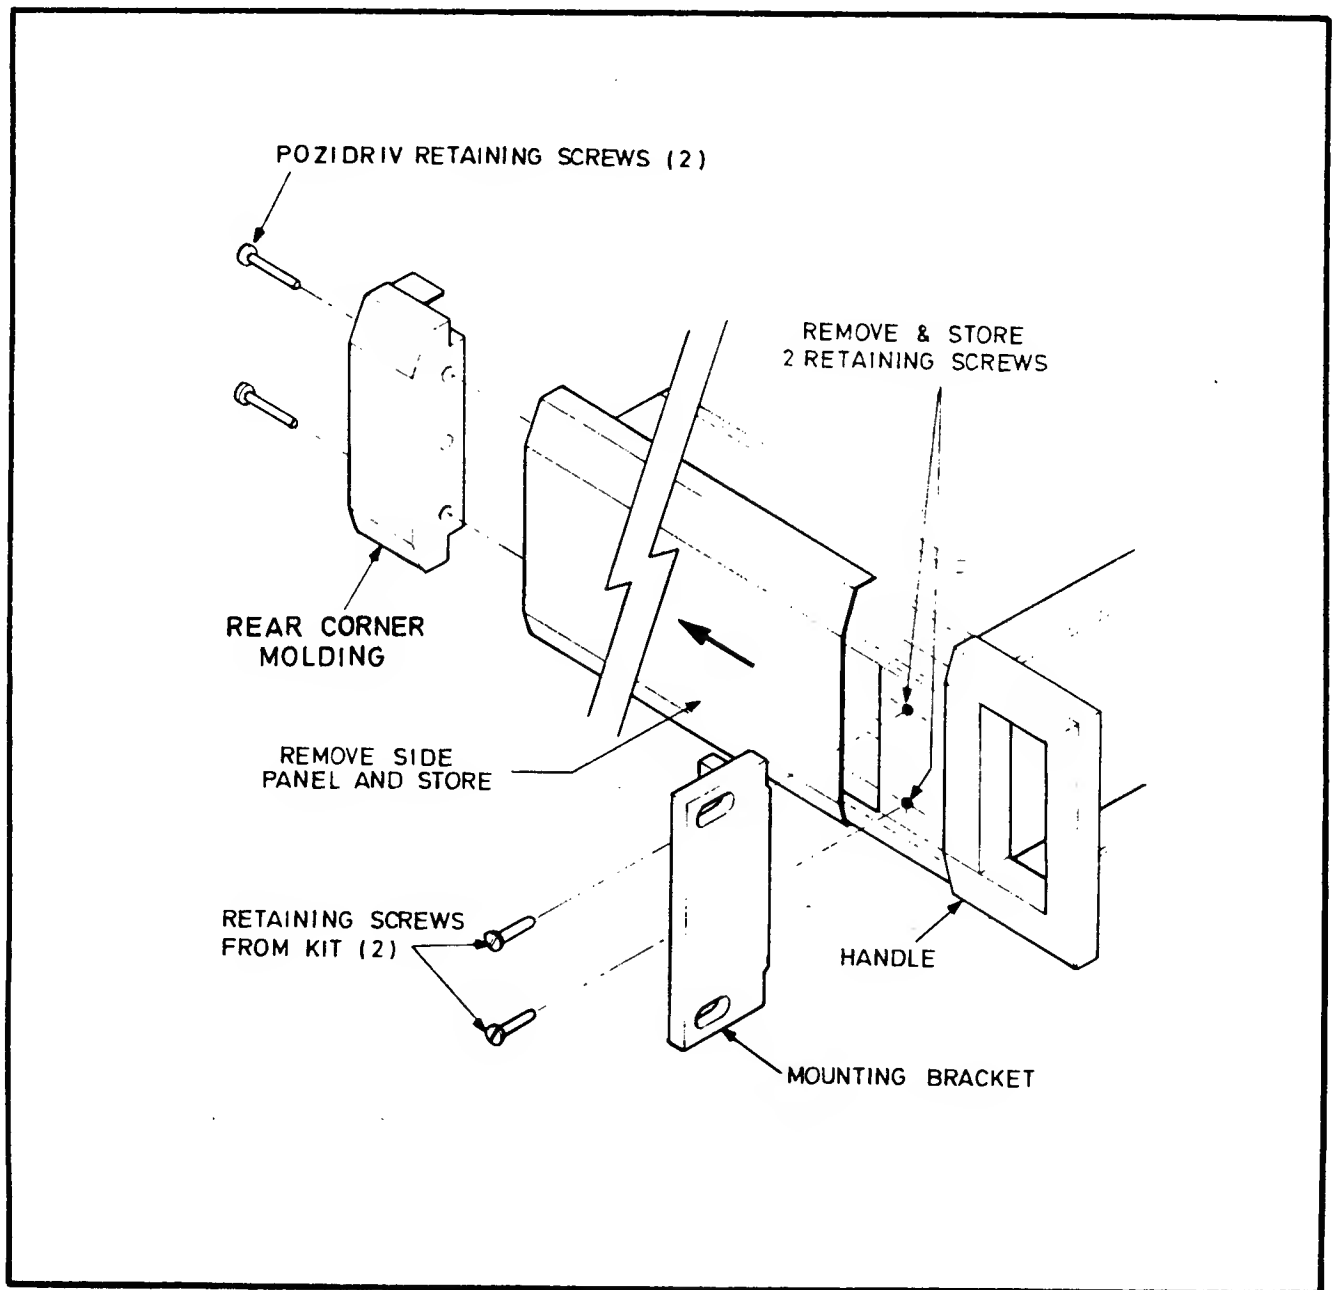

Fig. 3.3 Fitting the Rack Mounting Kit 11-1576
3.7.1 The kit contains a pair of mounting brackets and four screws. The method of fitting the kit is shown in Fig. 3.3. The fitting procedure is as follows: